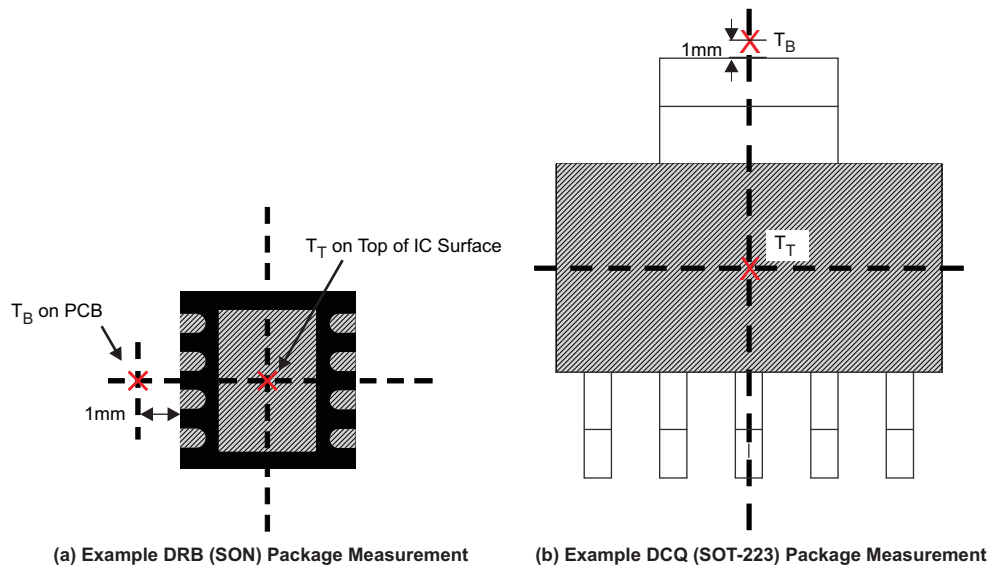

Figure 33. Measuring Point for T_T and T_B
- T_B is the PCB temperature measured 1 mm away from the IC package on the PCB surface (see Figure 33) (6)